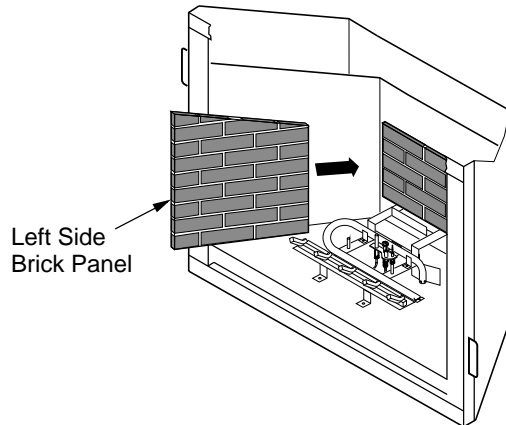

Figure 44 - Installing Left Side Brick Panel
6. Install left side brick panel by sliding it between the grate and the side of the firebox (see Figure 44).